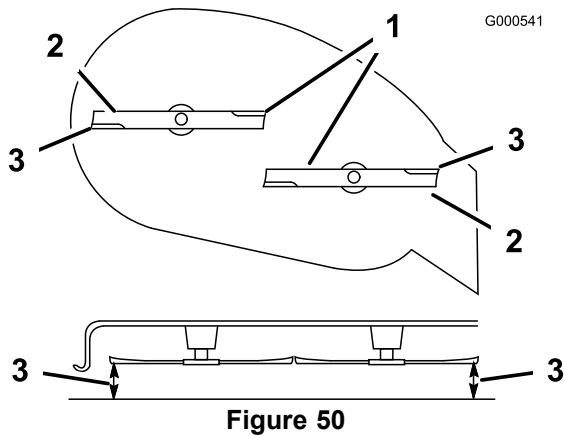

Figure 50
- Carefully rotate the blade(s) side to side (Figure 50). If both measurements are not within 3/16 inch (5 mm), an adjustment is required; continue with this procedure.
- Measure between the outside cutting edges and the flat surface (Figure 50). If both measurements are not within 3/16 inch (5 mm), an adjustment is required; continue with this procedure.